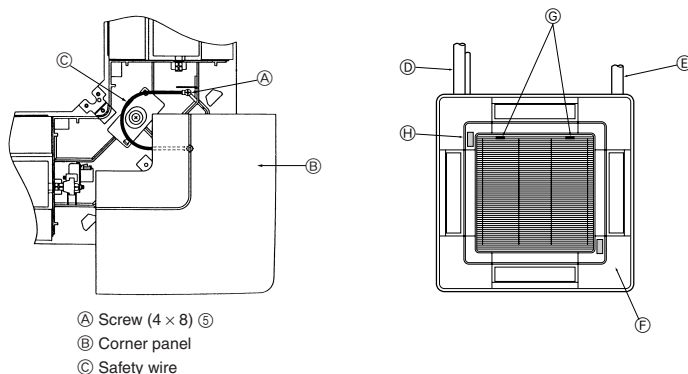

Fig. 10-11
10.8. Installing the intake grille (Fig. 10-11)